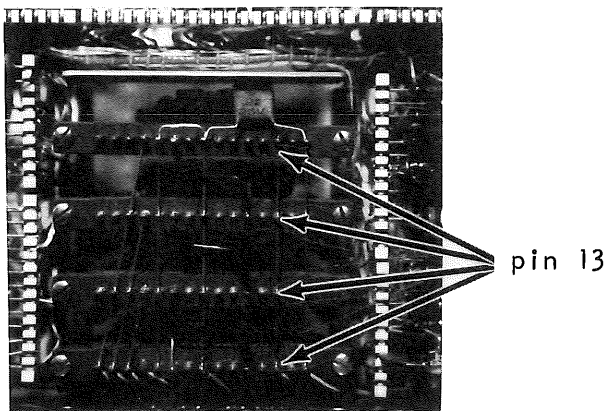

Figure 1-43
1. Connect the DC meter to pin 13 of any plug-in connector in the 3B2 (J1, J2, J3, or J4). Check for  $+15v \pm 0.75v$ . See Figure 1-43.